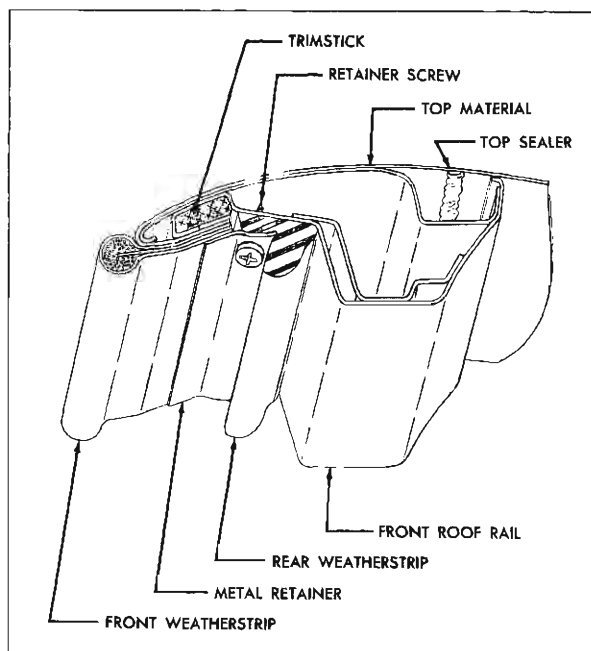

Fig. 21-28 Front Roof Rail
3. At the front of body, raise front roof rail, remove retainers and front weatherstrips, detach top material from front roof rail (Fig. 21-28).